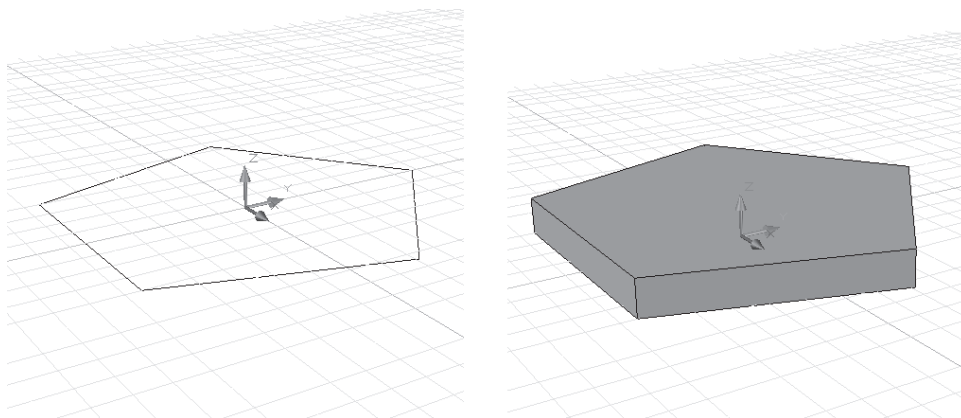

Figure 6.28
6. At the Specify radius of circle: prompt, enter 17↵. You now have a 2D polygon similar to the one shown on the left side of Figure 6.28.
3. At the **Specify height of extrusion or [Direction/Path/Taper angle]:** prompt, you will see that the polygon is now a 3D solid whose height follows the cursor. Enter **3**.↵ to make the height of the extrusion 3 units. The polygon expands to become a 3D pentagon, as shown on the right side of Figure 6.28.